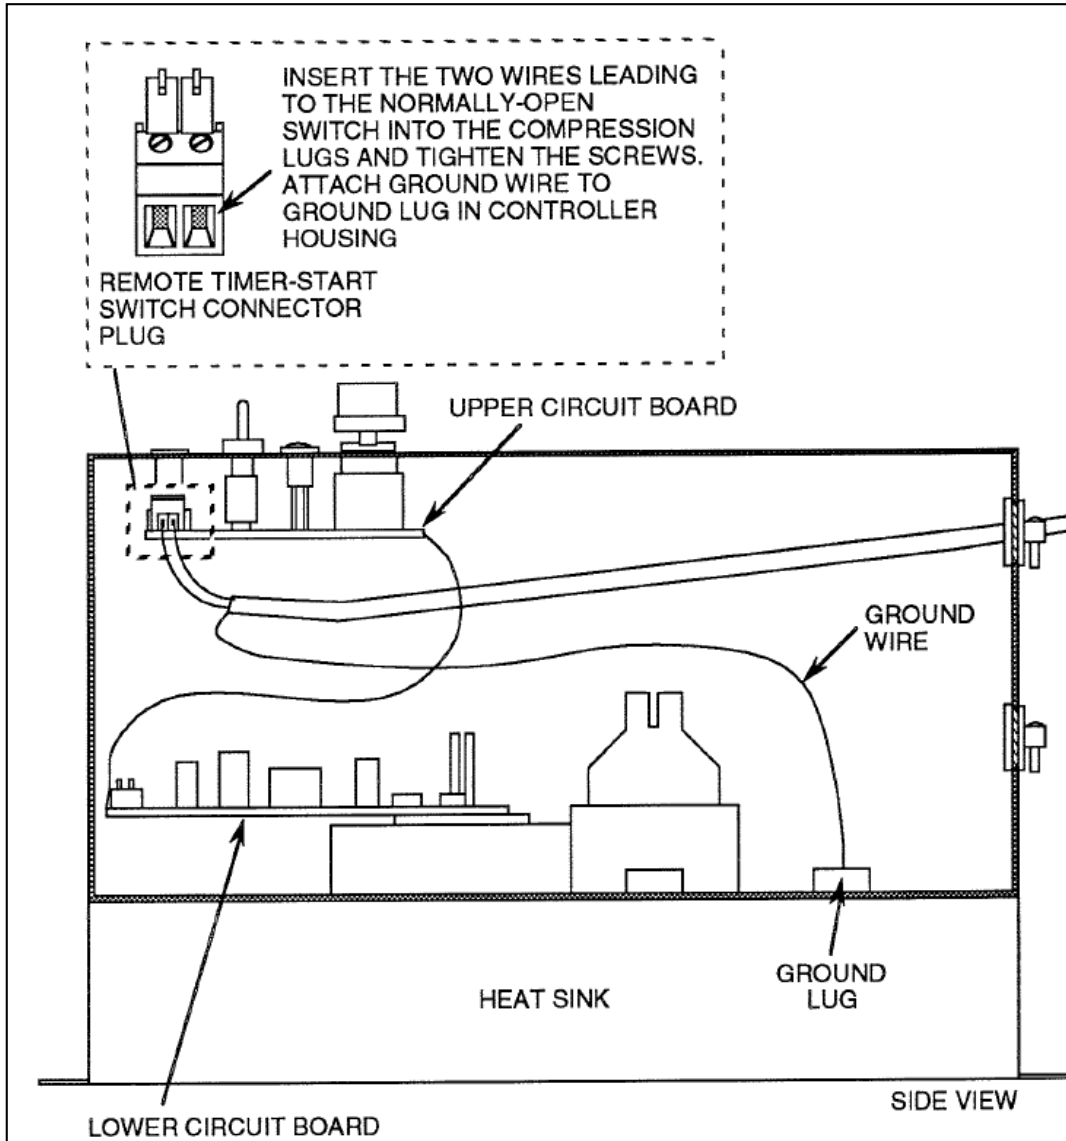

Figure 3-4 Installing the Remote Timer-Start switch to the upper circuit board.
1. Remove the plug from the upper circuit board (Fig. 3-4).